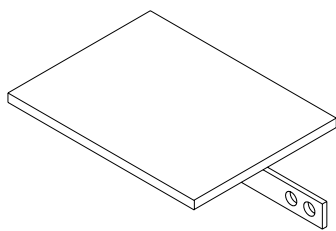
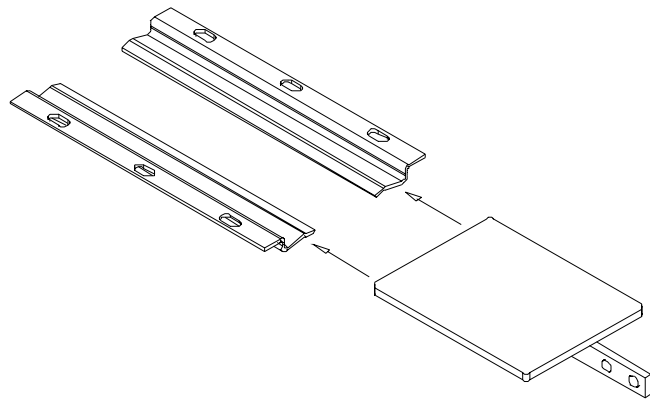

Figure 2.4.1
Figure 2.4.2
6. Locate air control plate Fig 2.4.1 (shipped inside firebox). Slide air control into tracks on firebox bottom as indicated in Fig 2.4.2.